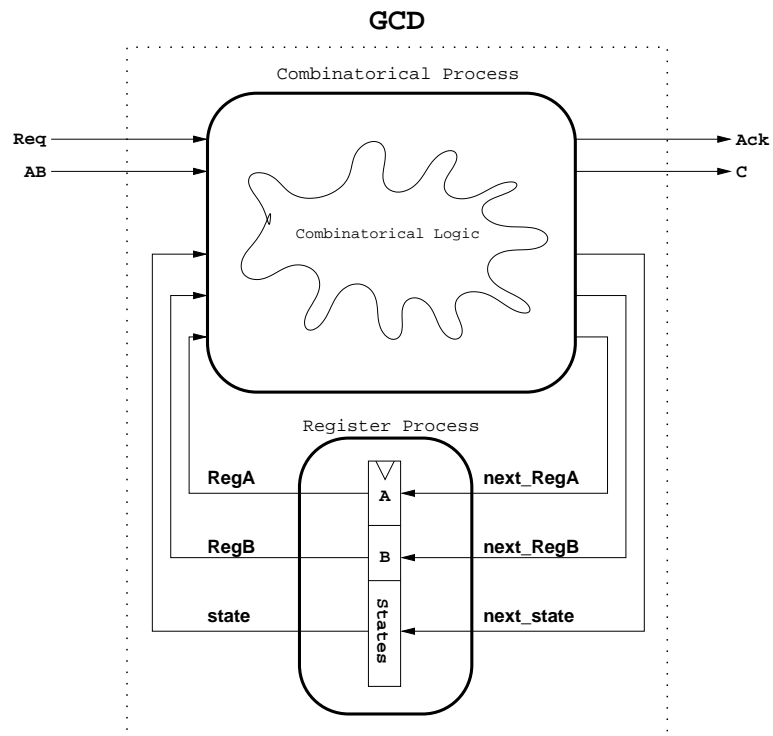

Figure 4: An RTL structure describing the processes needed.
*The latter is important: you have full control over the implementation produced by the synthesis tool, but you save the effort of writing all the corresponding low-level structural VHDL code yourself. This is a key message to get from this lab assignment! There is also a danger of working at this higher level of abstraction, and that is that you may start to think as if you are “programming in VHDL” – a mindset that will lead you to fail miserably as a digital systems designer. You should always think in terms of what hardware you want to create, and then write your VHDL code accordingly in a carefully structured way as indicated in Figures 4 and 5, i.e., cleanly separated into combinational logic (which is synthesized) and D-flip-flops (which are inferred).*
- c) Write a new RT-level FSM-style architecture body for the GCD entity (complete the code in the file `task2/gcd.vhd`). The code should be structured following the two-process template described in most textbooks on VHDL and illustrated in Figure 4 and Figure 5. Remember to implement the required fully interlocked handshaking, and remember that after reset your circuit should be able to perform many computations in sequence without being reset again.